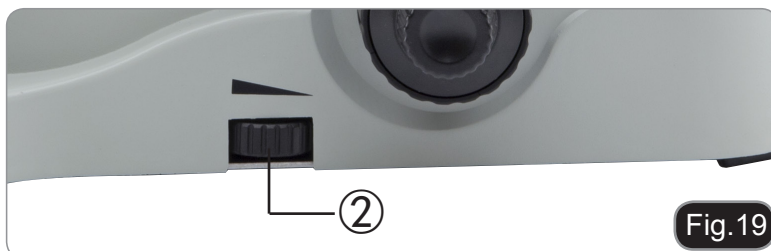

Fig.19
Turn the brightness adjustment knob ② to increase and decrease the brightness. (Fig.19)